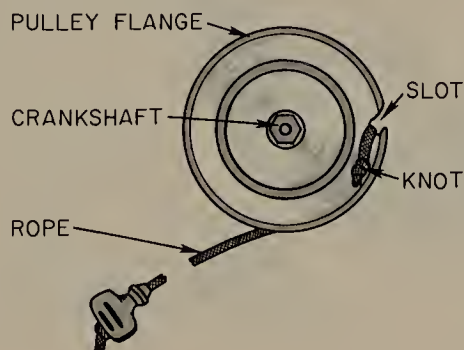

FIGURE 9.1 The rope-wind starter is the simplest of all small-engine starters. You wind the rope on the pulley and pull it to spin the engine crankshaft.
9.1 Types of Starters. There are four general types of small-engine starters: rope-wind, rope-rewind, windup, and electric. In the rope-wind starter, the engine has a pulley attached to the crankshaft which has a slot in the pulley flange. See Fig. 9.1. To use the rope, you hook the knot in the end into the slot, as shown. Then you wind the rope around the pulley, adjust the choke, make sure the ignition is on, and give the rope a strong pull. This spins the crankshaft to start the engine. Usually, it takes more than one pull to get the engine started.